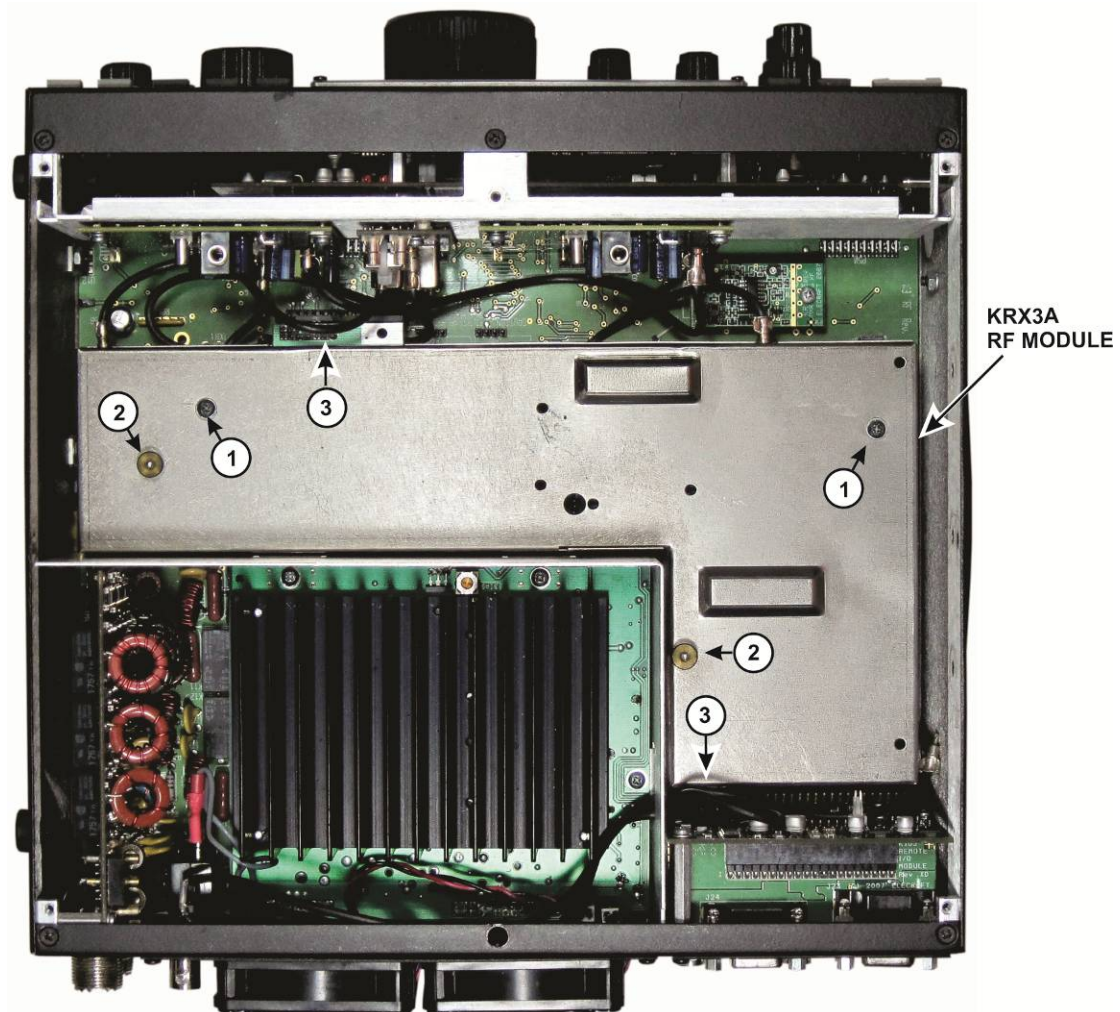

Figure A-4. Removing the KRX3A RF Module.
The crystal (roofing) filters in the KRX3A sub receiver are contained in the L-shaped RF module mounted above the main K3S or K3 RF board (see Figure A-4). Installing or changing the filters involves removing the RF module and the circuit board inside. The filters plug into the circuit board and are held in place by screws. No soldering is required.
- Remove the KRX3A RF module as follows. The circled numbers refer to Figure A-4 below.
- Remove the two long screws (1) that attach the KRX3A enclosure to the K3S or K3 main board.
- Grip the knurled nuts (2) and lift the KRX3A enclosure up and out of the K3S OR K3. The enclosure will unplug from two interface boards (3), one near the front and the other at the back. Also there will be two coaxial cables attached to the forward edge and usually one cable attached at the back of the enclosure. Carefully unplug these cables holding onto the metal finger grip, not the black coax. The connectors are held by friction and slide apart. They do not unscrew.
- Remove the two small interface boards (3) that plug into the board on the bottom of the K3S OR K3 and the KRX3A enclosure. The boards may still be attached to the main board or may be attached to the connectors on the KRX3A RF module. Set them aside in an ESD-safe place.
- Place the KRX3A RF enclosure on your work table. Remove the two knurled nuts (2) and lift the top half of the KRXA3 RF enclosure off of the lower half